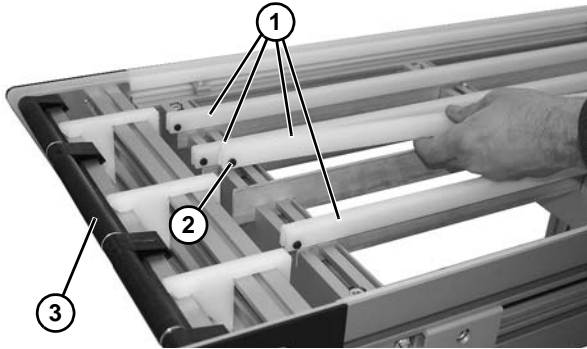

Figure 46
The top clip-on wearstrips (Figure 46, item 1) have a screw (Figure 46, item 2) on end of wearstrip on idler end (Figure 46, item 3) of conveyor so wearstrips do not move too far toward drive end.
1. Install top clip-on wear strips (Figure 46, item 1).